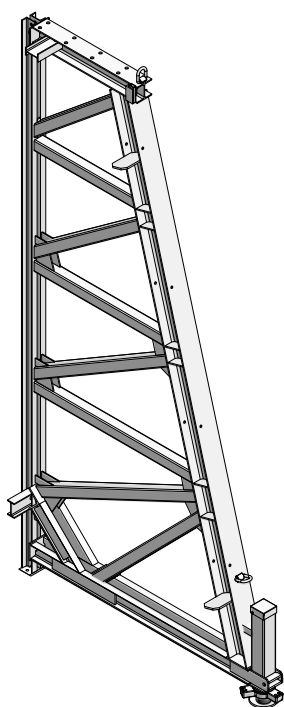

Fig. 4.1 Support frame STB 450
- STB 450 up to a height of 5.20 m, with height extensions 150 and, if required, additional accessories up to 13.50 m (Fig. 4.1 and page STB-11).